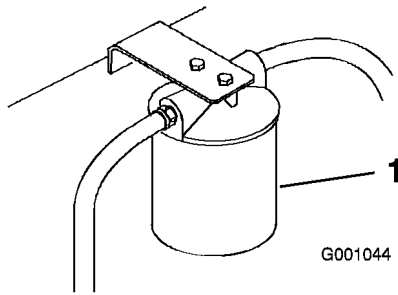

Figure 72
3. Place drain pan under filter, remove the old filter and wipe the filter adapter gasket surface clean (Figure 72).